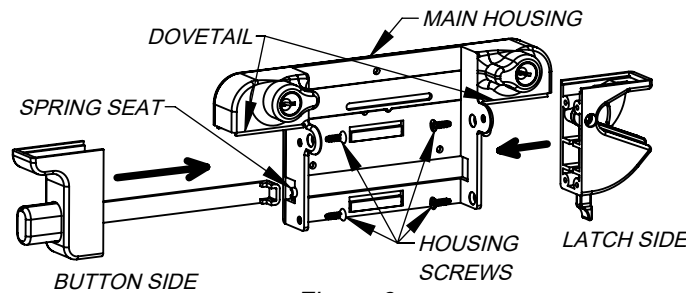
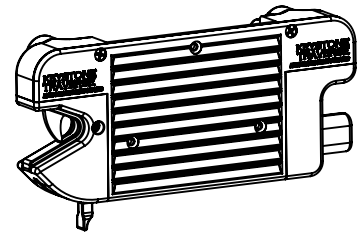

Figure 3
Figure 4
Slide the latch assembly and button assembly onto the main housing (Figure 3) on the opposite sides, taking care to align the dovetails on the housings with the dovetails on the main housing. The button should be inserted through the hole in the main housing, and the spring should be aligned with the spring seat. Reinstall the (4) housing screws. Check the completed assembly (Figure 4) to make sure it is now properly handed for the application (see Step 1).